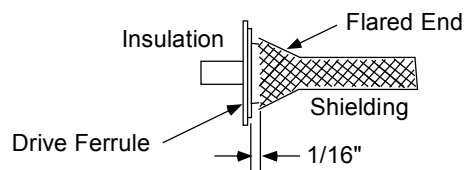

Figure 4.3B
2. Slide ferrule taper over silicone insulation and under shielding until ferrule flange is $\frac{1}{16}$ " from shielding (See Figure 4.3B).